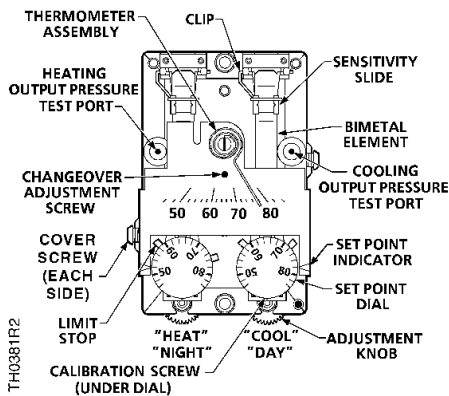

Figure 4. TH193 HC Thermostat Details.
2. Place a screwdriver in the center of the thermometer assembly (Figure 4). Carefully rotate the thermometer assembly until the pointer tip indicates the correct room temperature.
To change the limit stop settings, use a needle nose pliers to pull limit stop (Figure 4) between the setpoint cam gear teeth. Do not pull the limit stop any more than necessary to clear the gear teeth. Rotate the limit stop to its new position. Changing the limit stop position one gear tooth changes the limit stop setting by 1-1/3°F (0.7°C).
The factory thermostat sensitivity setting is approximately 2.5 psi/°F (31 kPa/°C). To change the sensitivity, use a flat-blade screwdriver to carefully move the sensitivity slide (Figure 4) to the desired position as follows:
4. Check the control pressure. If it does not read 7 to 8 psi (48 to 55 kPa), turn the calibration screw (Figure 4) using the calibration tool or a 1/8-inch (3.2 mm) wrench until the pressure is 7 to 8 psi (48 to 55 kPa). The sensing element is now in calibration and the setpoint can be changed to the desired room temperature.